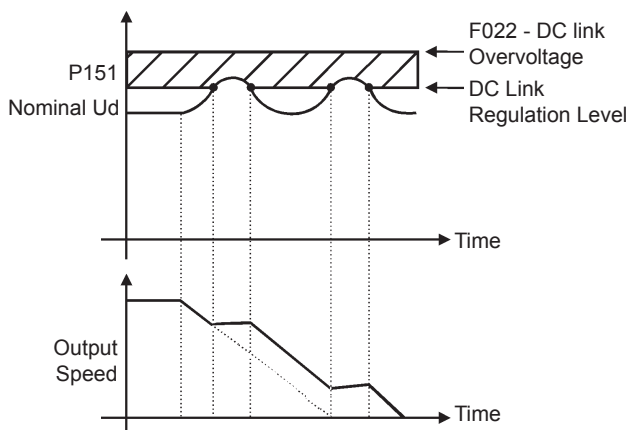

Figure 6.13 - Deceleration with Ramp Holding
| P151 (4)DC Link Voltage Regulation Level   | 325 to 400(P296 = 0)[375]1 V564 to 800(P296 = 1)[ 618 ]1 V3541 to 4064(P296 = 2)[ 3571 ]1 V5080 to 5831(P296 = 3)[ 5123 ]1 V6404 to 7350(P296 = 4)[ 6428 ]1 V          | <p>V/F mode (P202 = 0, 1 or 2):</p> <ul style="list-style-type: none"> <li>☑ P151 adjust the DC link regulation level, in order to prevent F022 – DC link Overvoltage trips. This parameter, together with P152, allows two types of DC link regulation operation. See next the description and settings for both.</li> </ul> <p>Ramp Holding – When P152 = 0.00 and P151 is different from the maximum value. When the DC link voltage reaches the regulation level (P151), the deceleration ramp is extended and the speed kept constant until the DC voltage becomes lower than the regulation level. Refer to the figure 6.13.</p> <ul style="list-style-type: none"> <li>☑ This type of DC link regulation (Ramp Holding) tries to avoid overvoltage trips (F022) during decelerations with high inertia loads or with short deceleration times.</li> </ul>  |      |        |                             |  |                                |  |                                   |  |